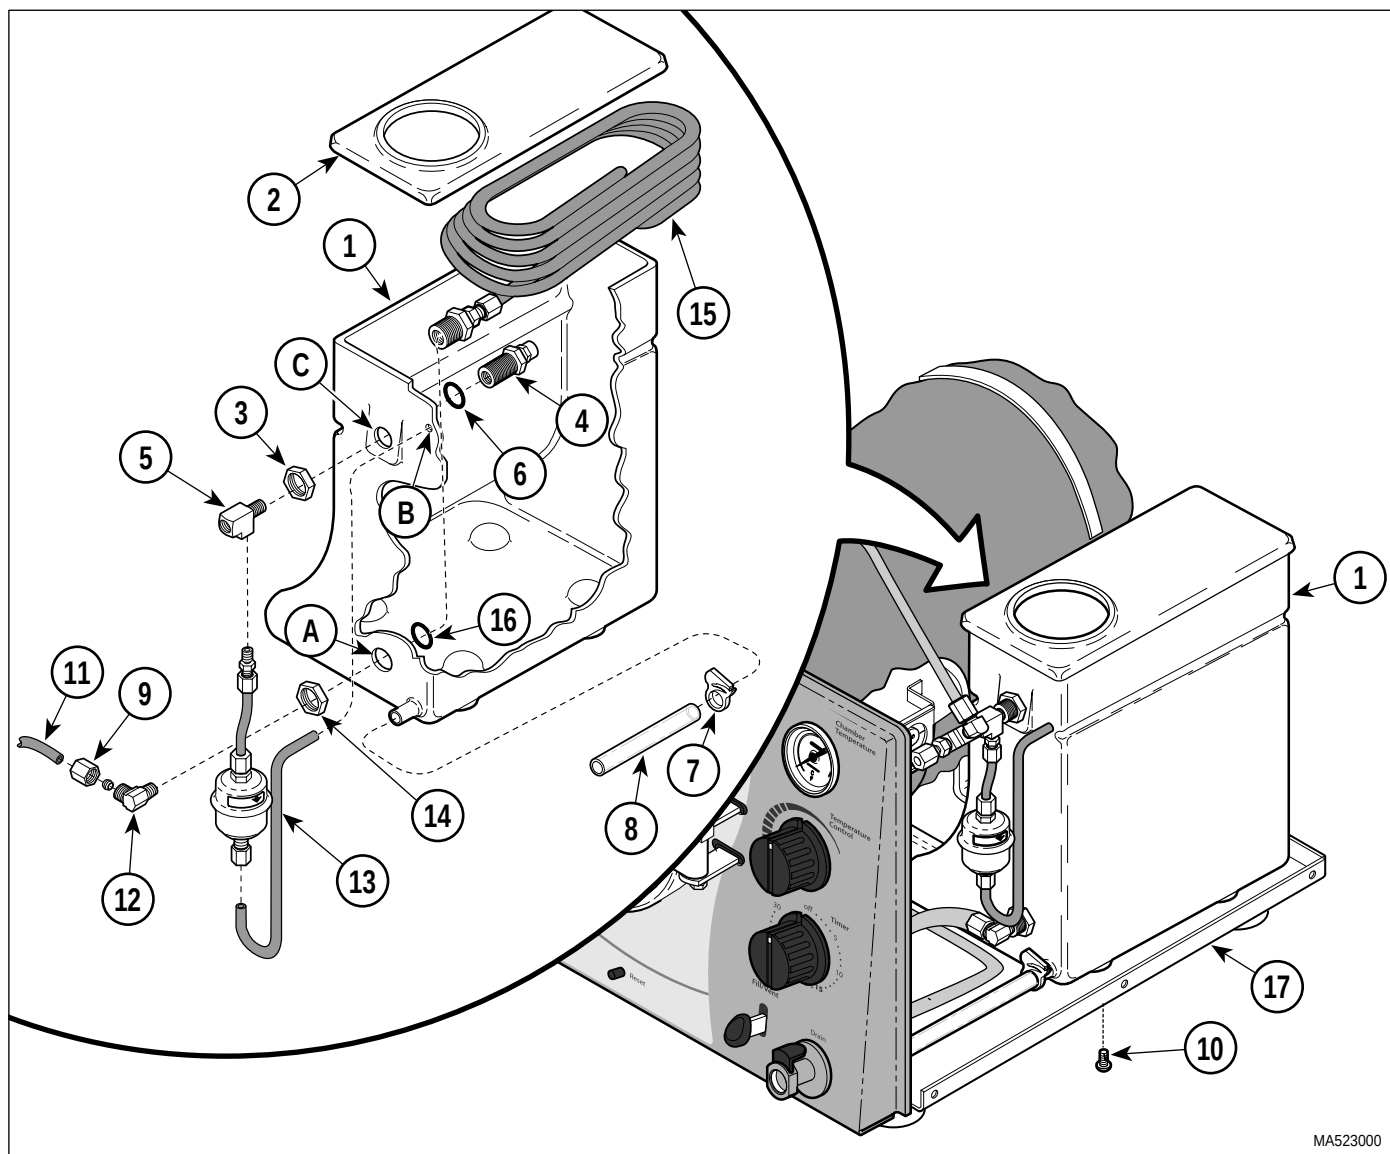

Figure 4-20. Condensing Tank Removal / Installation
- (1) Remove cover assembly (Refer to para 4.2).
- (2) Drain all water from tank assembly (1, Figure 4-20); then remove tank lid (2).
- (3) Loosen nut (3); then unscrew bulkhead fitting / pressure relief assembly (4) from tee fitting (5).
- (4) Remove nut (3), bulkhead fitting / pressure relief assembly (4), and neoprene washer (6) from tank assembly (1).